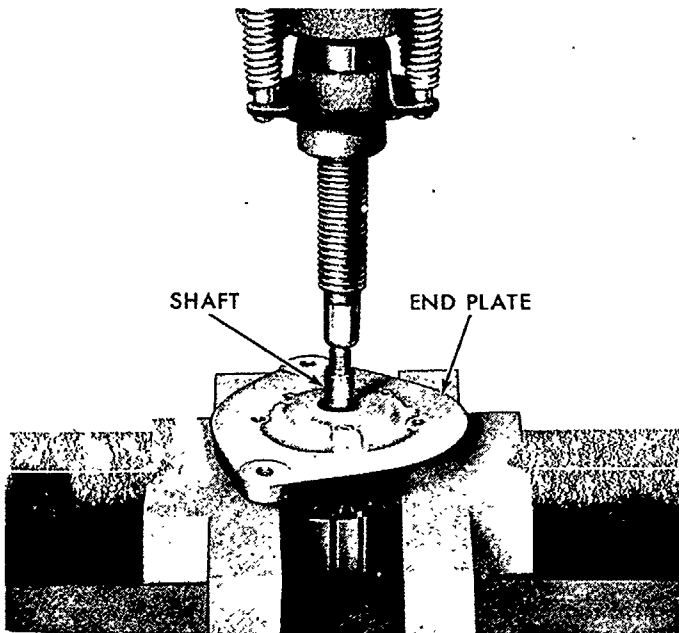

Figure 13
5. Press the drive end plate assembly off the armature shaft using a press as shown in Figure 13. After removing the end plate, remove the stop ring and thrust collar from the armature shaft.